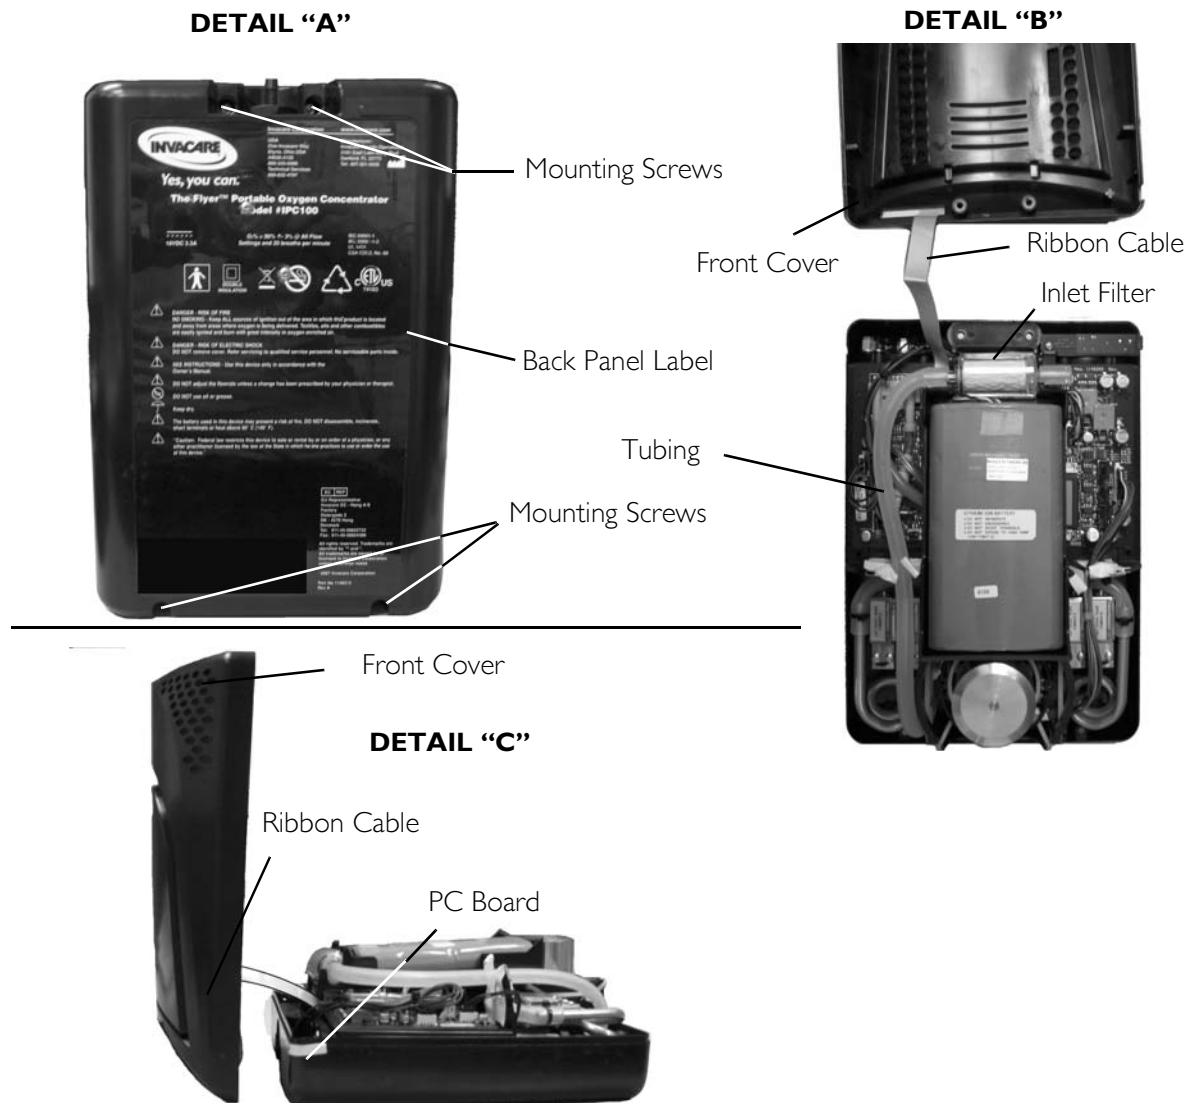

FIGURE 2.3 Removing the Front Cover
NOTE: For this procedure, refer to FIGURE 2.2 and FIGURE 2.3 on page 10.
2. Position the XPO₂ so that the back panel label is facing up (Detail “A” in FIGURE 2.3).
3. Remove the four mounting screws from the back of the XPO₂ using a T15 Torx[®] screwdriver (Detail “A” in FIGURE 2.3).
5. Slowly, open the front cover ensuring not to damage the ribbon cable (Detail “B” and Detail “C” in FIGURE 2.3).
- Position and orient the new filter in the holder (Detail “B” of FIGURE 2.3).
NOTE: For this procedure, refer to FIGURE 2.3 on page 10.
4. While holding the unit together, position the XPO₂ so that the back panel is facing up (Detail "A" in FIGURE 2.3).
5. Install four mounting screws and secure the two sections of the XPO₂ together (Detail "A" in FIGURE 2.3). Securely tighten.